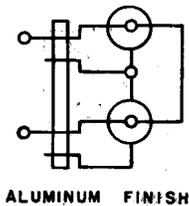

Fig. 25—372A Plug
2.15 372A: The 372A (Fig. 25) consists of a flexible pair of coaxial plug fingers mounted in a metal shell. The inner and outer contacts of one finger are connected to the inner and outer contacts, respectively, of the other finger. The inner and outer contacts of the plug finger are gold plated, and are not designed for cord connections. The 372A plug is used with the 477- or similar-type jacks mounted on 5/8-inch centers and is used in the L3 Coaxial Telephone Systems.